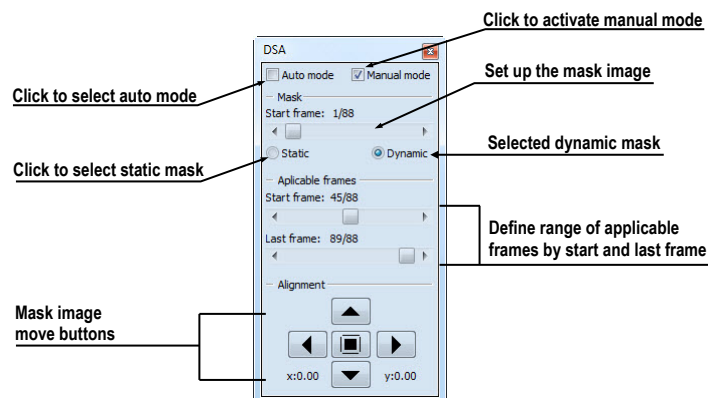

Figure 103 – DSA tool
2. Click on the **Manual mode** in the **DSA** tool (see Figure 103). The manual DSA mode will be active in the current view according to the following parameters of the **DSA** tool: